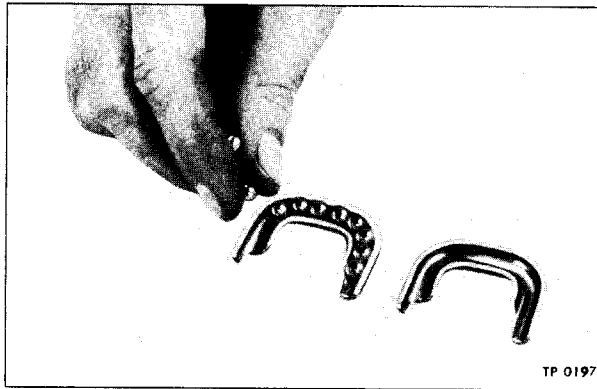

Figure 18—Filling Ball Guides
5. Lay one-half of a ball guide on bench with groove up. Place the remaining balls for the first circuit into groove of the guide (fig. 18). Close this half of ball guide with other half. Hold the two halves together and plug each open end with heavy grease to prevent balls from dropping out.